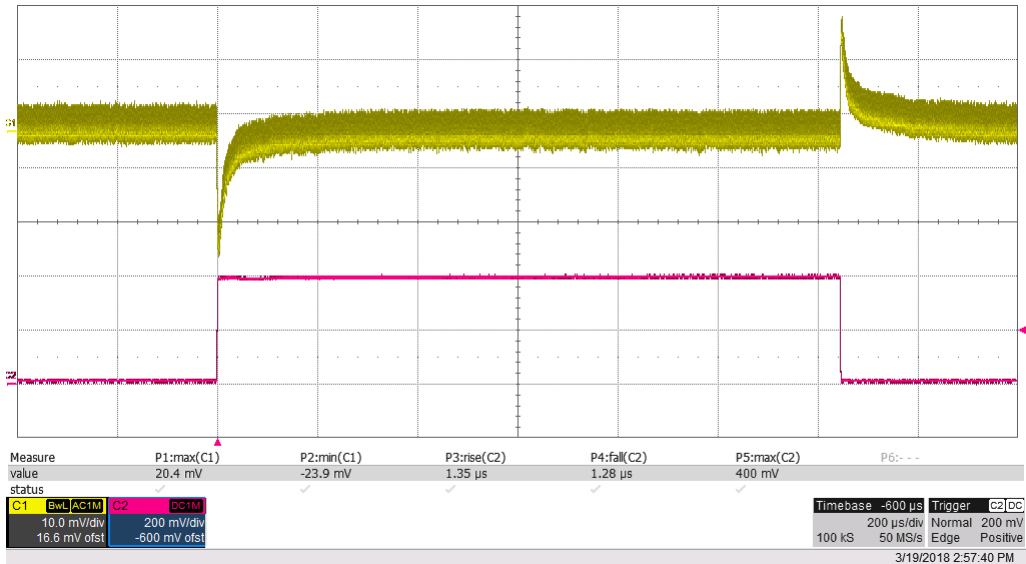

Figure 12. Output Voltage Transient, $V_{IN} = 12\text{ V}$, 1-V V_{OUT} From 20-mA to 40-mA Load
Figure 12 shows the 1-V output voltage when the load current is stepped between 20 A and 40 A. An external static load of 20 A was used along with an onboard dynamic load for 20-A pulses.
- The waveform in Figure 12 is across a 20-m Ω resistor to ground on the dynamic load